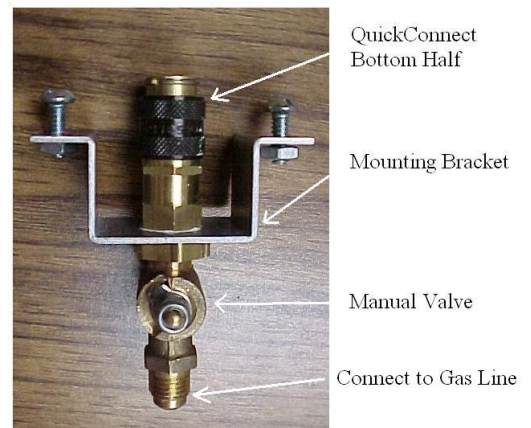

Figure 1
7. The quick connect fitting with modified manual shut-off valve shall be preinstalled in the bracket (See Figure 1) before installing in the light. NOTE: Apply TFE Paste thread sealer to each connection if not already applied.